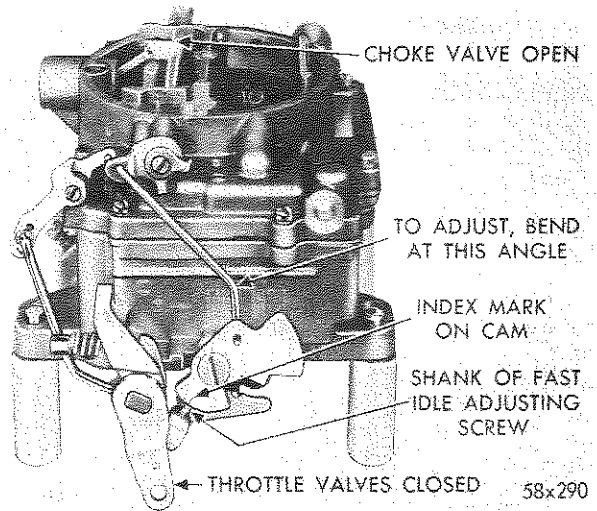
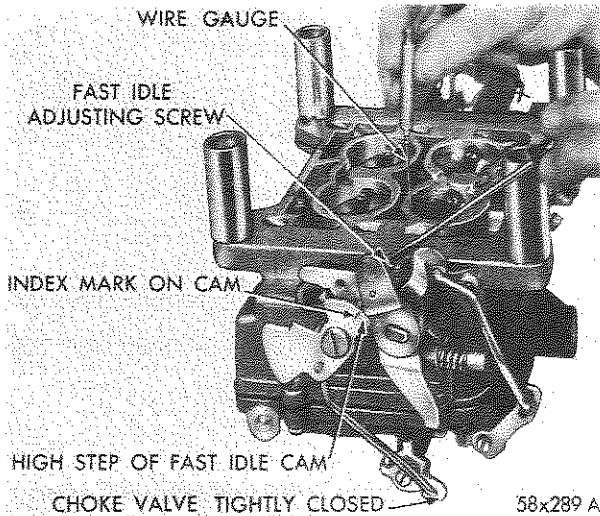

Fig. 7 - Indexing Fast Idle Cam
Fig. 6 Checking and Adjusting the Fast Idle
(1) With the choke valve held tightly closed and carburetor inverted, tighten the fast idle adjusting screw (on the high step of the fast idle cam) until wire gauge Tool T-109-29 (.020 inch) can be inserted between the primary throttle valve and the bore (side opposite idle port), as shown in Figure 6. The index mark on the fast idle cam should be in direct line with the fast idle screw shank, as shown in Figure 7.
(2) Invert the carburetor and open the throttle valves to wide open position. Close the choke valve tightly and then close the throttle valves. Release the choke valve. This will position the fast idle cam to fast idle. The index mark on the cam should line up with the center of the fast idle adjusting screw, as shown in Figure 7.